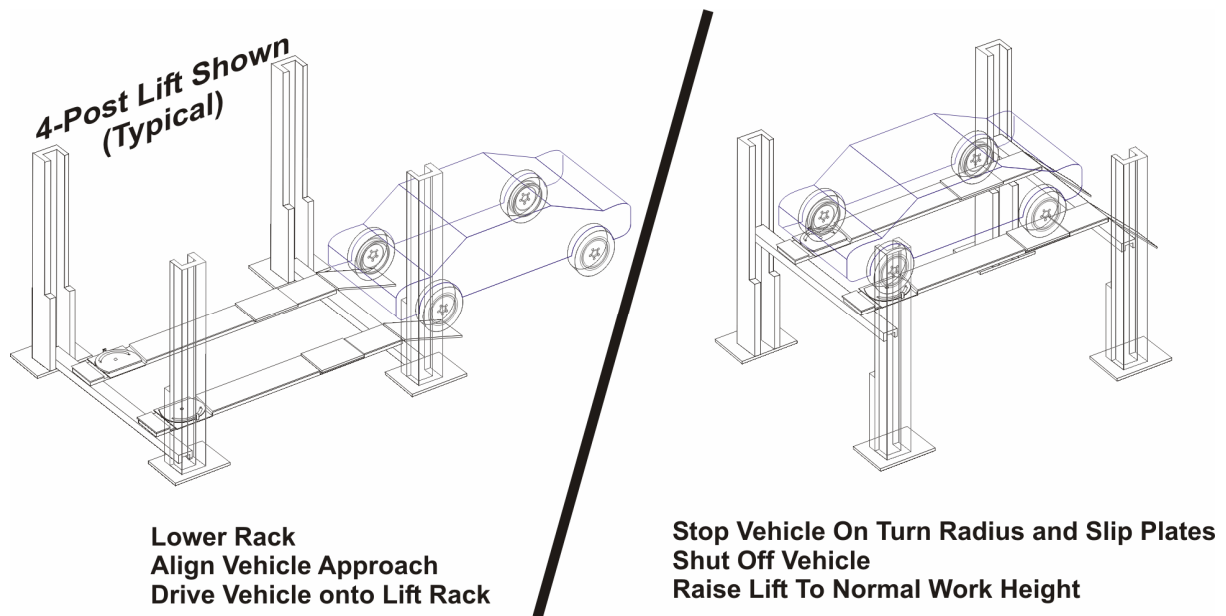

Figure 3-1. Vehicle Lift Preparation
3.1.1 Using Figure 3-1 as a guide, lower the lift rack. Align the vehicle with the ramps and drive the vehicle onto the lift.